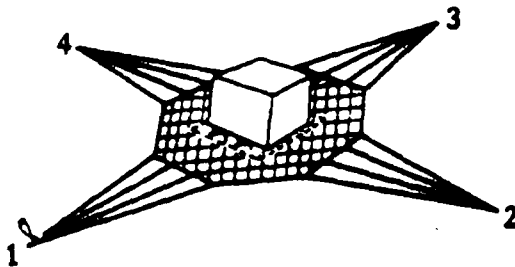

Figure 1-8. Aligned Load
Step 3 - Align the load on the net so that the sides of the load are parallel with the yellow cord (Figure 1-8). The load may overlap the yellow cord. The load's center of gravity will be near the